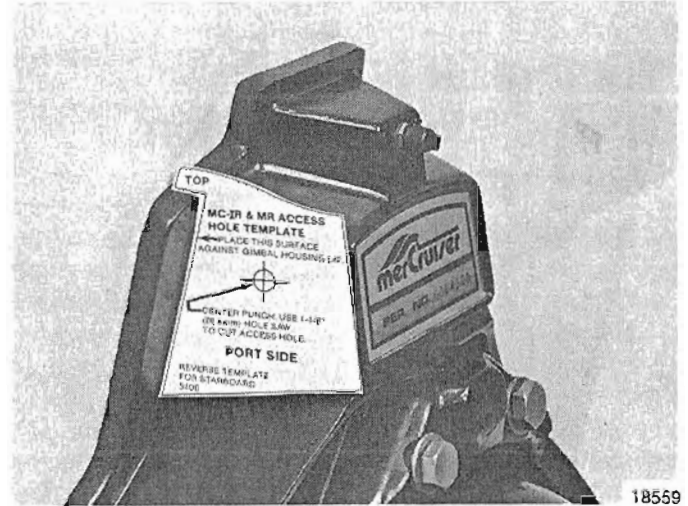

Figure 4. Template in Position on Gimbal Housing (Left Side)
2. Place template on left side of gimbal housing (Figure 4) and mark gimbal housing with a center punch at location indicated. Repeat same procedure on right side of gimbal housing, using proper template.